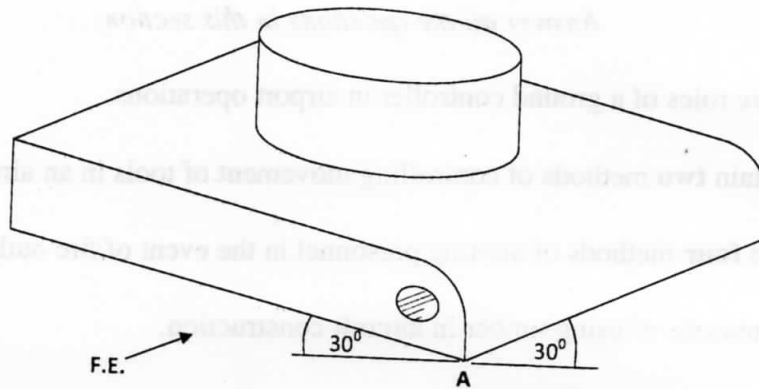

Figure 1
- 10 Figure 1 shows a bracket drawn in isometric projection.